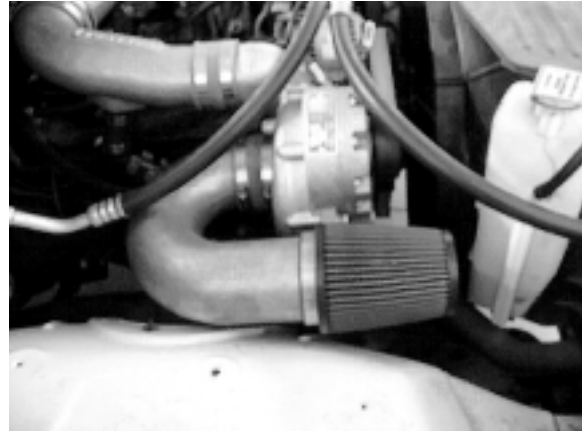

Figure: 11B-a
- C. Attach the supplied air filter to the aluminum air inlet using the supplied #52 clamps. (See *Figure 11B-a*.)